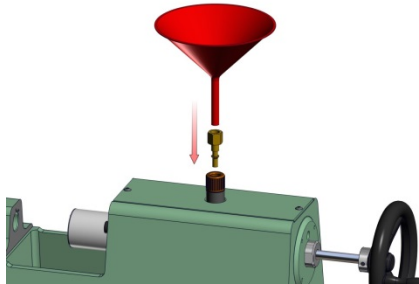
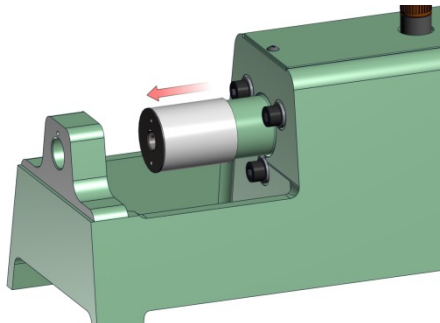
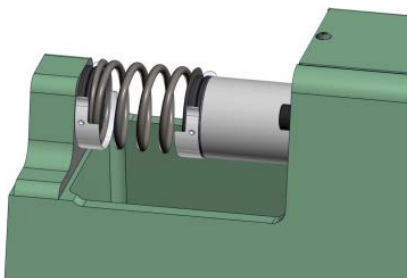
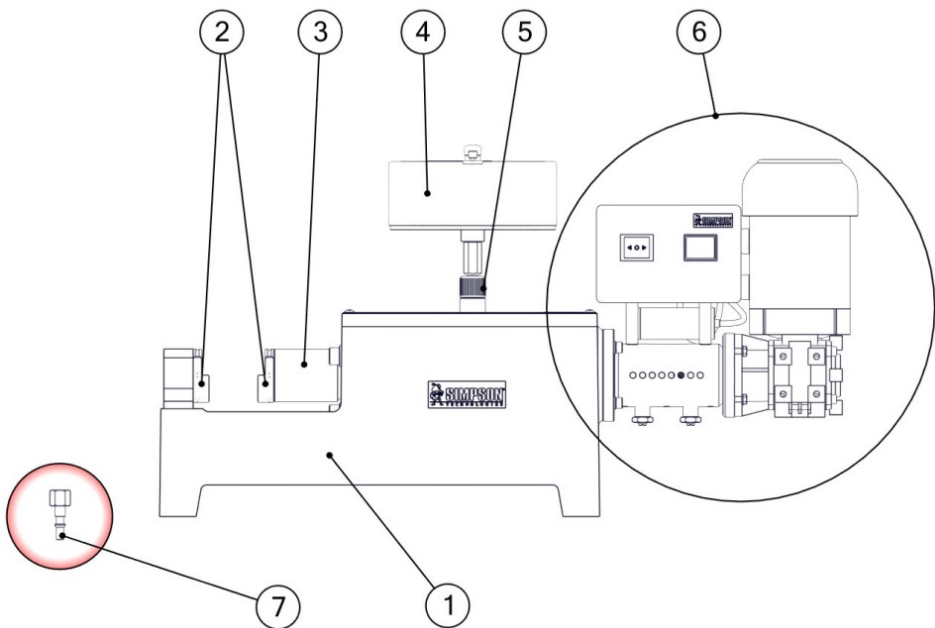

Figure 6.3.1
Figure 6.3.2
Figure 6.4.2
Figure 7.1: Front View
1. Take the pressure gauge off of the top of the Universal Strength Machine by simply unsnapping it from the Plug Coupling (Item 5, Figure 7.1).
2. Snap the Connecting Pin (Item 8, Figure 7.1) into the Plug Coupling where the pressure gauge is normally mounted. Use of a funnel is also recommended. See Figure 6.3.1 below.
3. Turn the Rotary Handle forwards (clockwise) until the Hydraulic Piston is in the end position on the left. See Figure 6.3.2 below.
5. Use a wrench to unscrew the Spindle and Spindle Guide (Item 7, Figure 7.1) from the machine Base (Item 1, Figure 7.1). See Figure 6.3.2 below.
10. Crank the Rotary Handle (Item 6, Figure 7.1) all the way in by rotating it clockwise until it will not turn any further. Also, make sure that the disengaged Hydraulic Piston (Item 3, Figure 7.1) is pressed in all the way toward the Base (to the right).
2. Take a slide gauge or caliper (not provided) to measure the spring length before you place the spring into the apparatus between the Compression Strength Accessories (Item 2, Figure 7.1). Record the length of the spring.
3. Put the spring in the apparatus between the two Compression Strength Accessories without any pressure applied. To ensure no pressure is applied, turn the Rotary Wheel (Item 6, Figure 7.1) counterclockwise to open the Compression Strength Accessories. See Figure 6.4.2 below.
4. Now, turn the Rotary Handle clockwise until the pointer on the pressure gauge (Item 4, Figure 7.1) reaches 5 N/cm² on the outer scale for compression strength. Use a slide gauge to measure the spring distance between the Compression Strength Accessories. Record the measurement in the diagram at 5 N/cm².